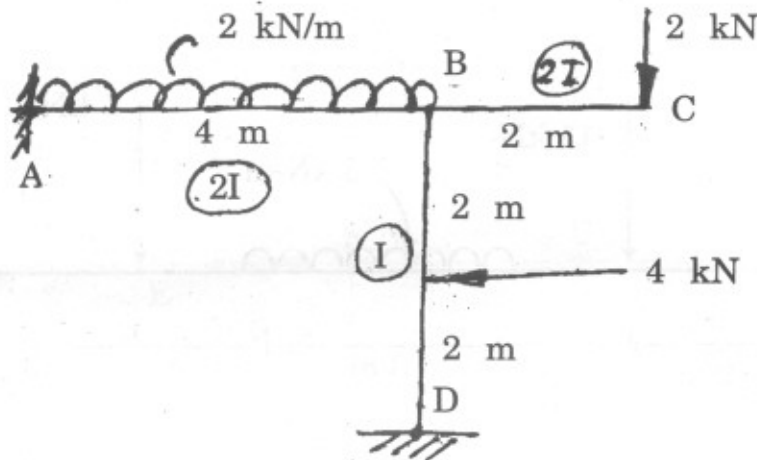

Fig. 12
7. Analyse the rigid frame shown in Fig. 12 by slope-deflection method. Draw B.M.D. [16]